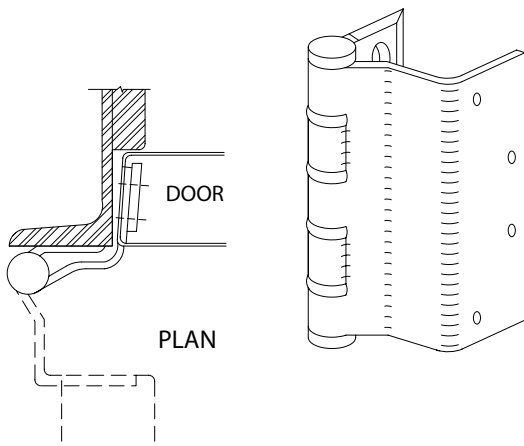

FIGURE 7b
2. The Half Mortise Hospital Hinge, Figure 7b, has one leaf mortised into the door edge and one leaf surfaced-mounted on the frame face.